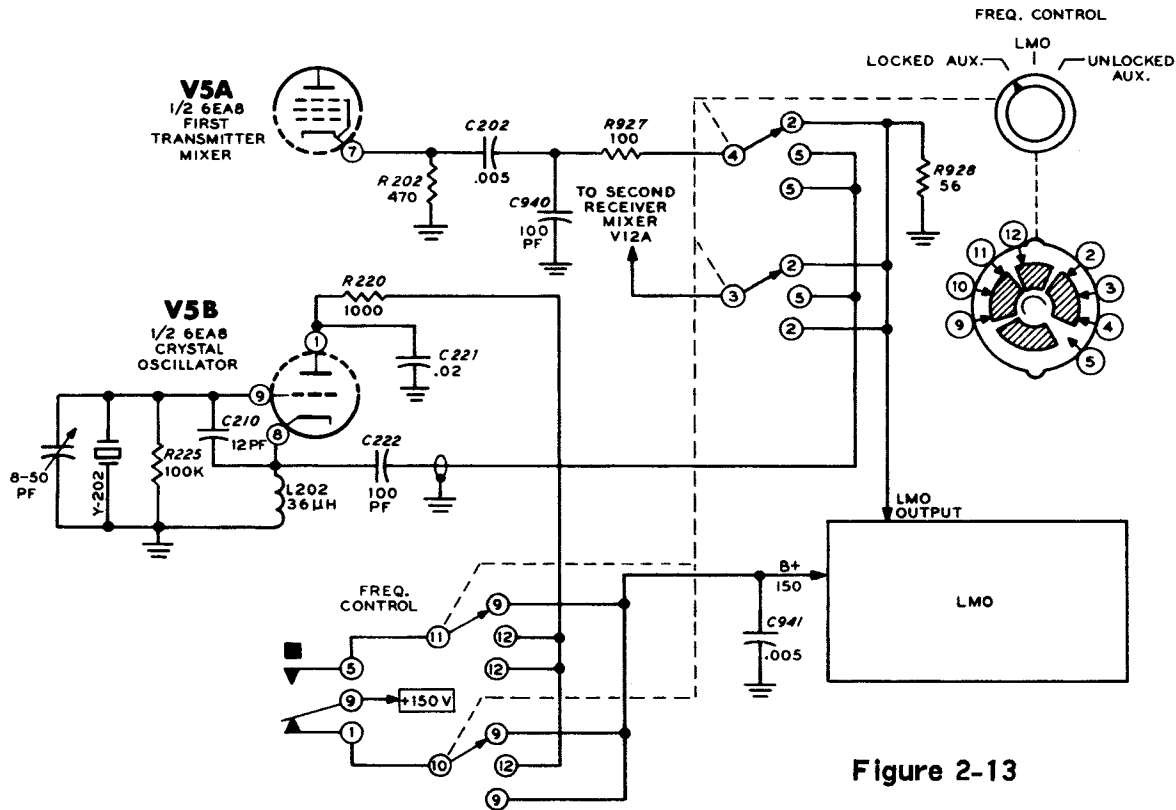

Figure 2-13
**LMO/Crystal Oscillators (Figure 2-13)**